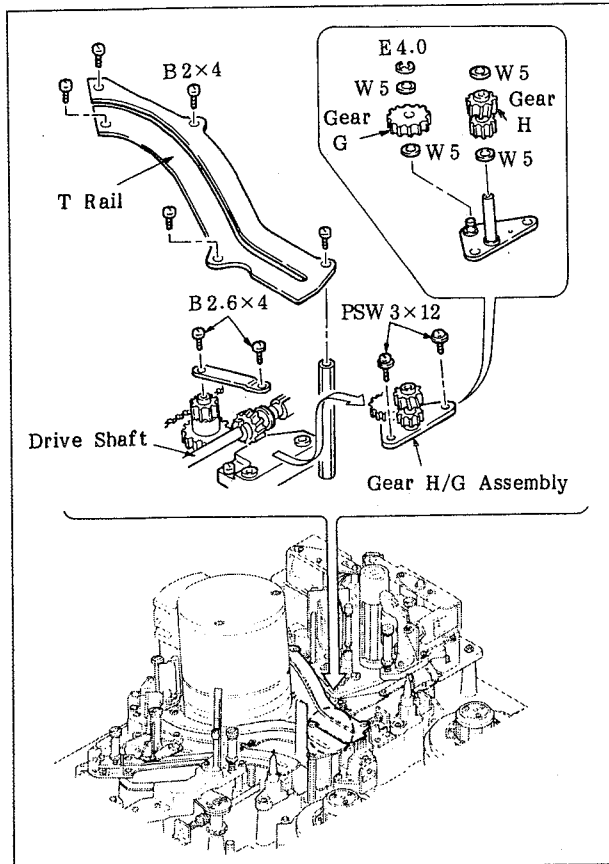

Fig. 6-70 Remove the H/G Gear Assembly
1. Remove the H/G gear assembly by referring to Figure 6-70.